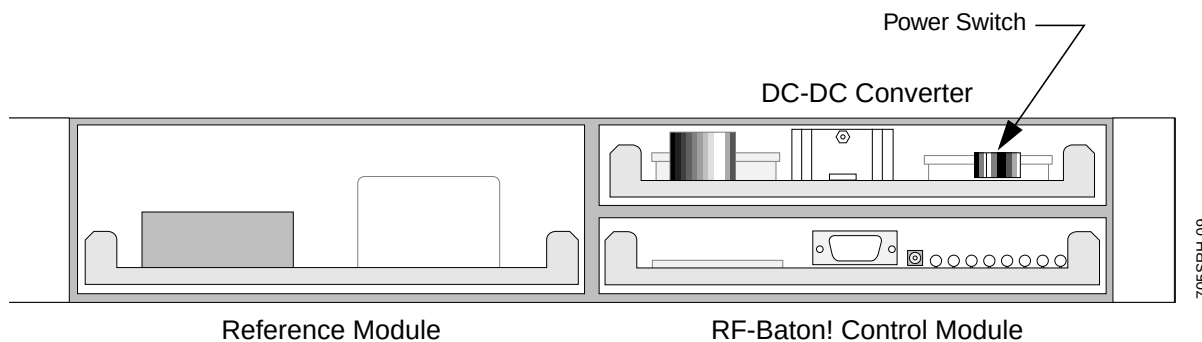
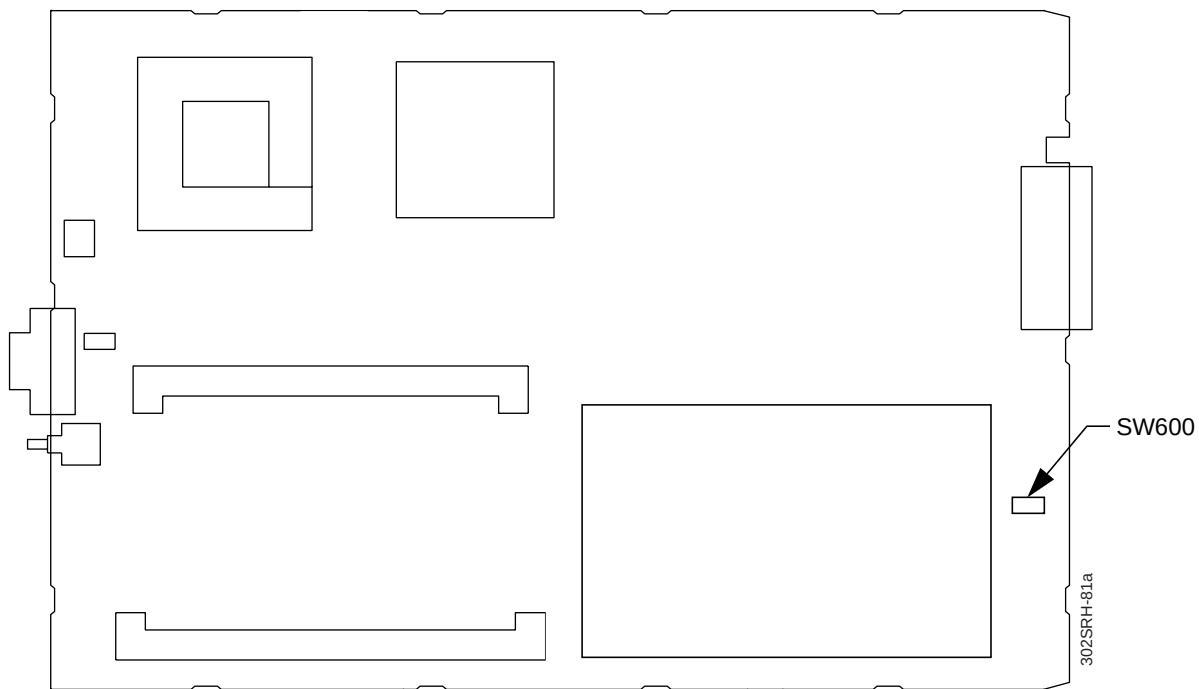

Figure 6-11: RF-B! Transmitter Controller (Front Panel Removed)
Figure 6-12: BCM Component Layout—DIP Switch S2 (SW600) Location
3. Gently pull the BCM straight out (see Figure 6-11).
- Set Switch 2 of Dual In-line Package (DIP) switch SW600 to ON (see Figure 6-12).
- Gently place the BCM into the slot in the RF-B! transmitter controller chassis, firmly seating the board card-edge connectors into the backplane (see Figure 6-11).
- After the boot up, set the RF-B! transmitter controller POWER switch to OFF (O).
- Set Switch 2 of DIP SW600 to OFF (see Figure 6-12).
11. Gently place the BCM into the slot in the RF-B! transmitter controller chassis, firmly seating the board card-edge connectors into the backplane (see Figure 6-11).